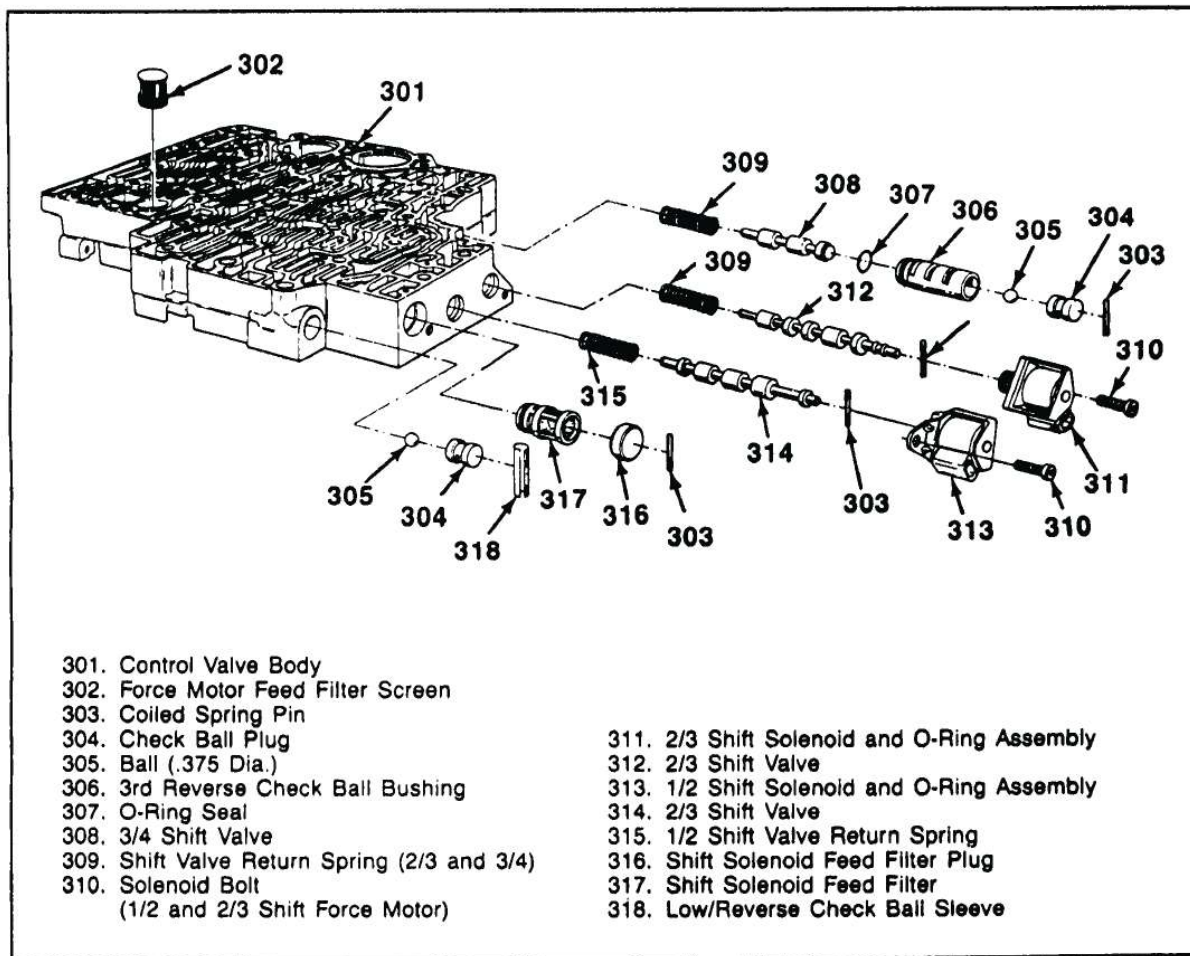

Figure 118
12. NOTE: Shift Solenoid "A" (313) is BLUE in color (See Figure 118).
Shift Solenoid "B" (311) is RED in color (See Figure 118).